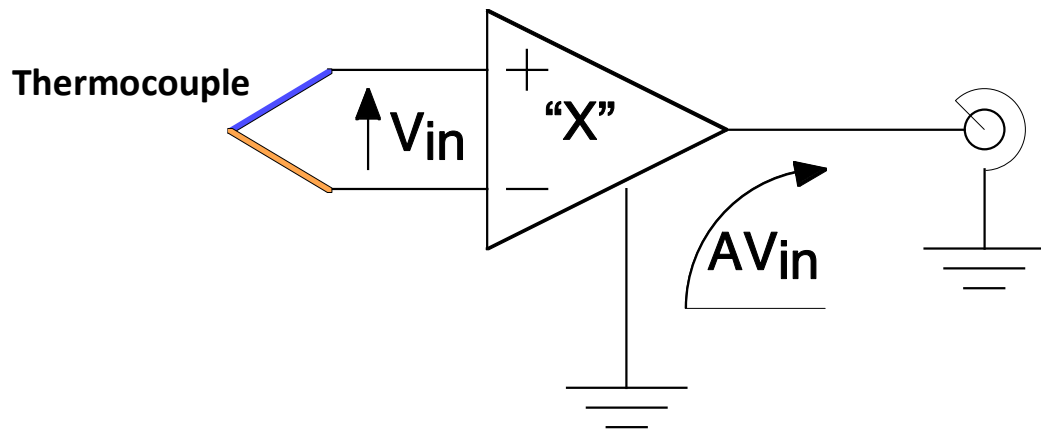

Figure Q2c
- b) Consider Figure Q2c, where a thermocouple generates a small voltage proportional to the difference in temperature between the measurement junction and the “reference” junction, which is near the input to device “X”.
- ii. Redraw Figure Q2c so that the circuit will work. [3]